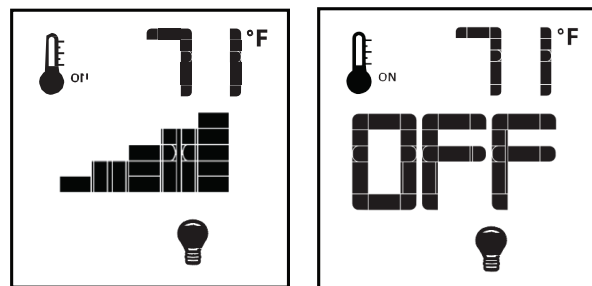

Fig. 73 Dimmer light control
The auxiliary function controls the AUX power outlet by the dimmable light control. To activate this function use the Mode Key (fig. 59) to index to the light bulb icon (fig. 73). The intensity of the output can be adjusted through six (6) levels. Use the Up/Down Arrow Keys (Fig.59) adjust the output level (fig. 73). A single “beep” will confirm reception of the command.